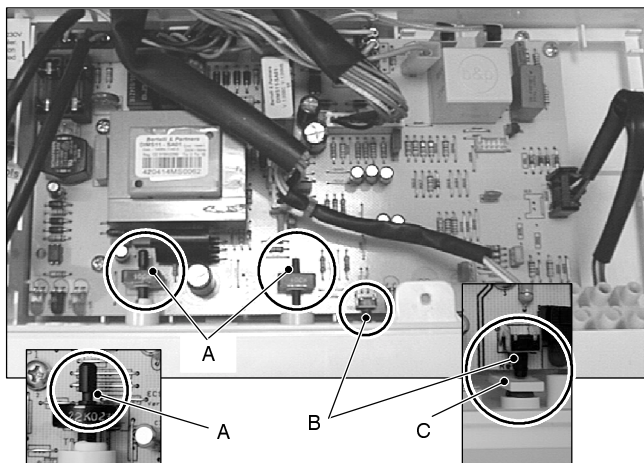

Fig. 48
- 8 Insert the spindles in the control panel knobs until the notch A (Fig. 48) reaches the potentiometer edge. It is not necessary to force them in the knob.
- 9 While tightening the screws that fix the Electronic control/ignition p.c.b. on the control panel, keep the p.c.b. towards the control panel fascia making sure of the contact between the boiler reset button B and the tab C (Fig. 48).